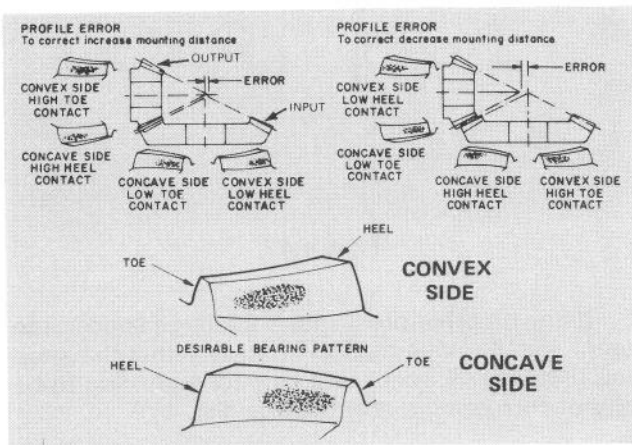

Figure 43
7. Inspect the wear pattern on the gear teeth, compare them to the patterns indicated (Fig. 43). Add or remove shims from output housing to correct any misalignment.